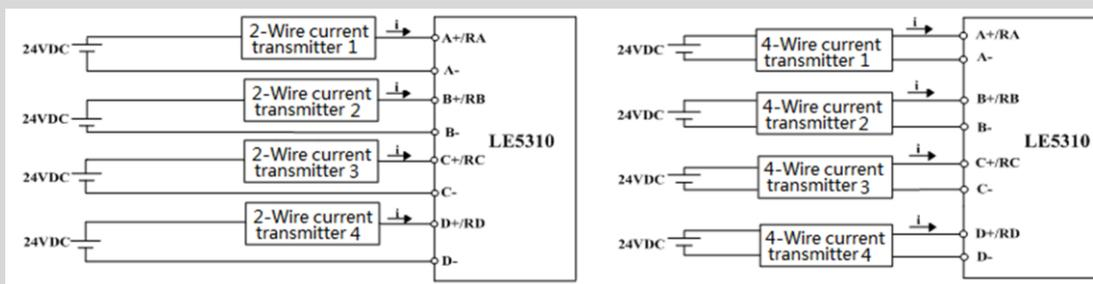

Figure 7-2 2-wire Type and 4-wire Type Circuit Diagram
- Figure 7-2 shows wiring mode of 2-wire and 4-wire type current transmitter, using external power supply or CPU module 24VDC output power supply for transmitter.